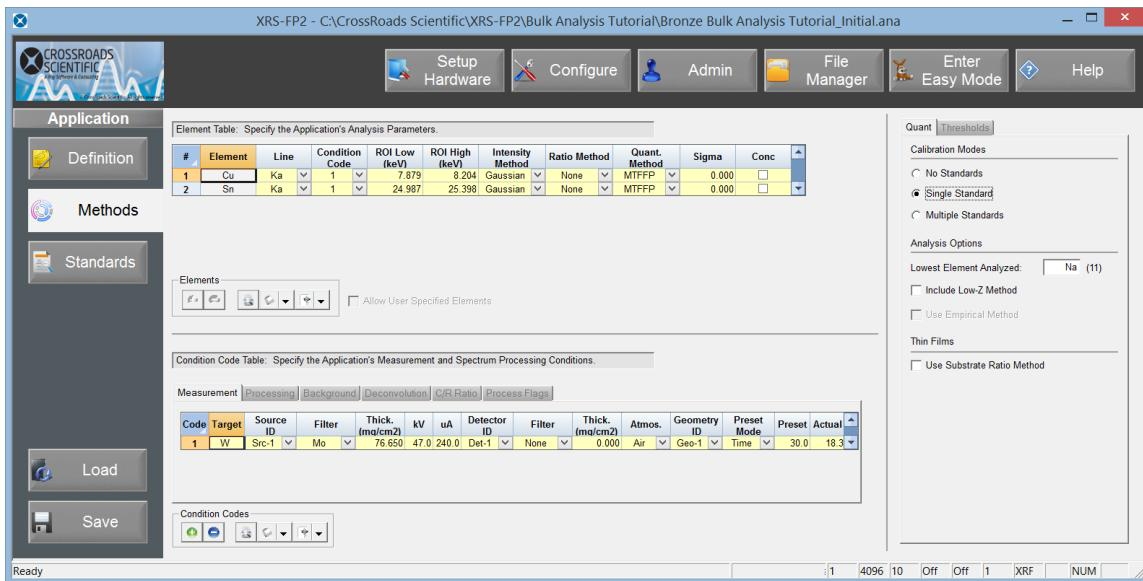

Figure 6. XRS-FP2 Application Workflow - Methods. The application methods are input here.
7. Select the **Methods** button. As components are defined (see above), the “Element Table” is filled in and the line is set to the highest energy line that gets excited by the source kV. Note that the line must have an associated edge energy that is below the specified kV in the Condition Table, otherwise the intensity will be reported as zero. In this case, the Cu K α and Sn K α . These are appropriate selections for this application (see Fig. 6 below).